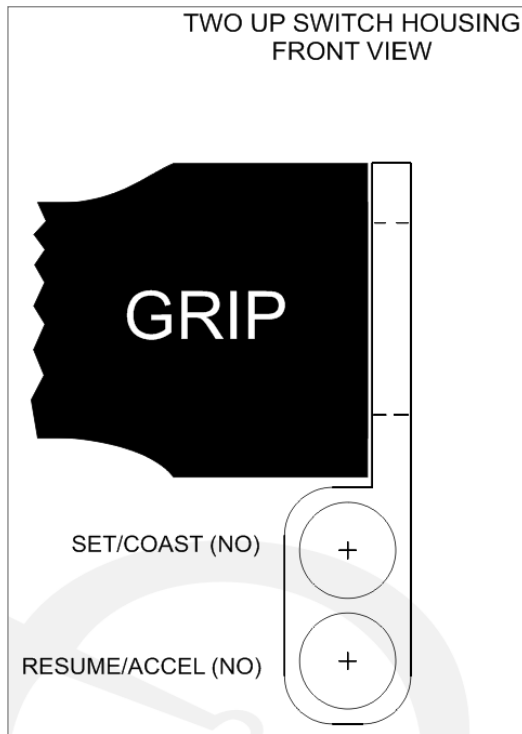

Fig. 34
- The two button switch housing does not use a “CANCEL” button. Two button switch housings only use “SET/COAST and RESUME/ACCEL” buttons. To clear the servo set point memory, removing the ignition key (shutting off the motorcycle) will clear the set point.(Fig.34)